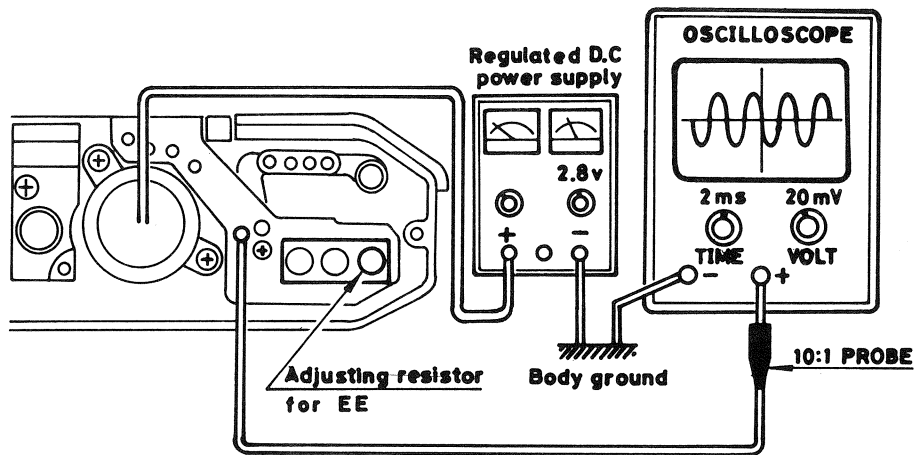

Fig. 19
- Connect wires as shown in Fig. 19 and supply 2.8V to the camera.
- If this reading is out of range, the adjustment can be made by turning Adjusting resistor for EE as shown in Fig. 19.